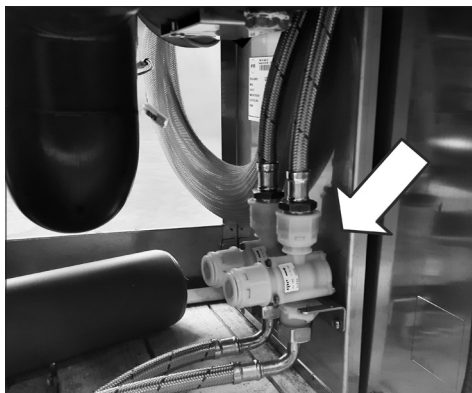

Fig. 16
- 1) Look at the back of the machine at the bottom (Fig. 16).